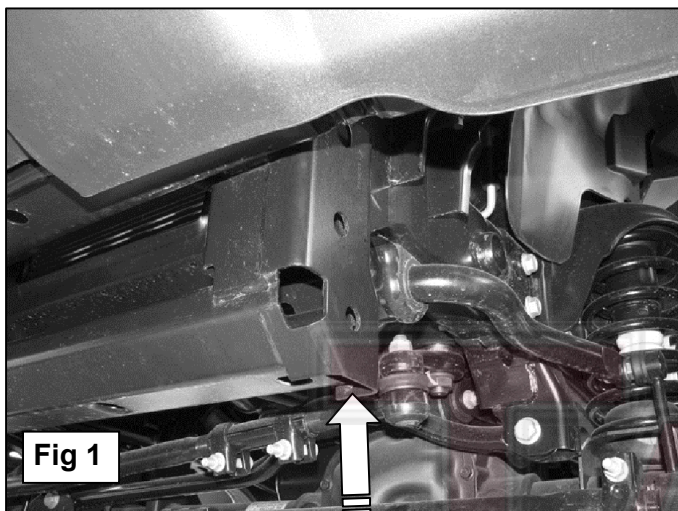

Fig 1
- Remove the plastic splash guard, **(Figure 1)**, from under the front bumper and place it on a clean, stable work surface.